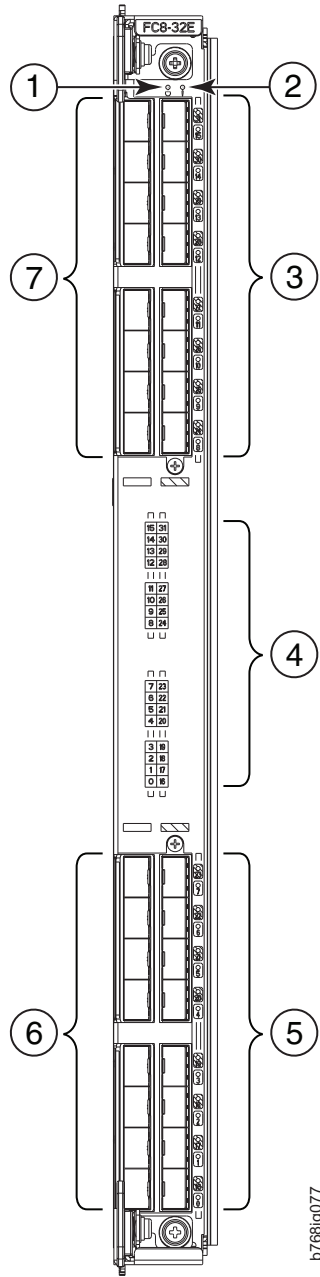

Figure 57. FC8-32E port blade
- Figure 57 on page 181 shows an FC8-32E port blade